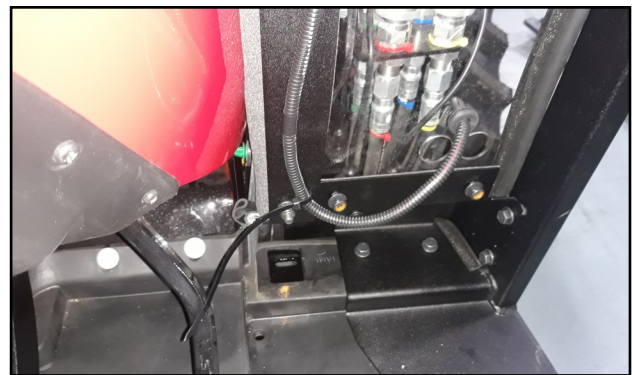

Fig. 11.4 (Bottom shown, top similar)
- 11.4** Run the wire harness down along the right side trim ring, fastening with the (3) factory installed wire ties and through the 11/16" hole in the right side cowl window. See Figure 11.4.